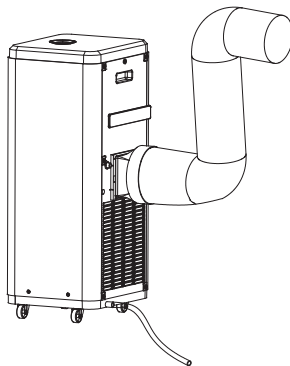

Fig.6
- 3) As shown in Fig. 6, connect drain hose well (only for using heating model);